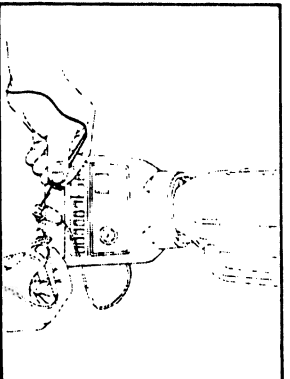

Fig. 3
- (1) Test the circuit to make sure it is de-energized. Refer to section 4.2 on how to test for voltage.
- (2) Set the range switch to the ohm range position. Insert the red test lead into the "OHM" terminal and the black test lead into the "COM" terminal.
- (3) With the test leads open the most significant digit will blink **1.000** with the test leads shorted, the buzzer will sound.
- (4) Connect the prod tips to the circuit under test and read the resistance directly on the display (Fig. 3).